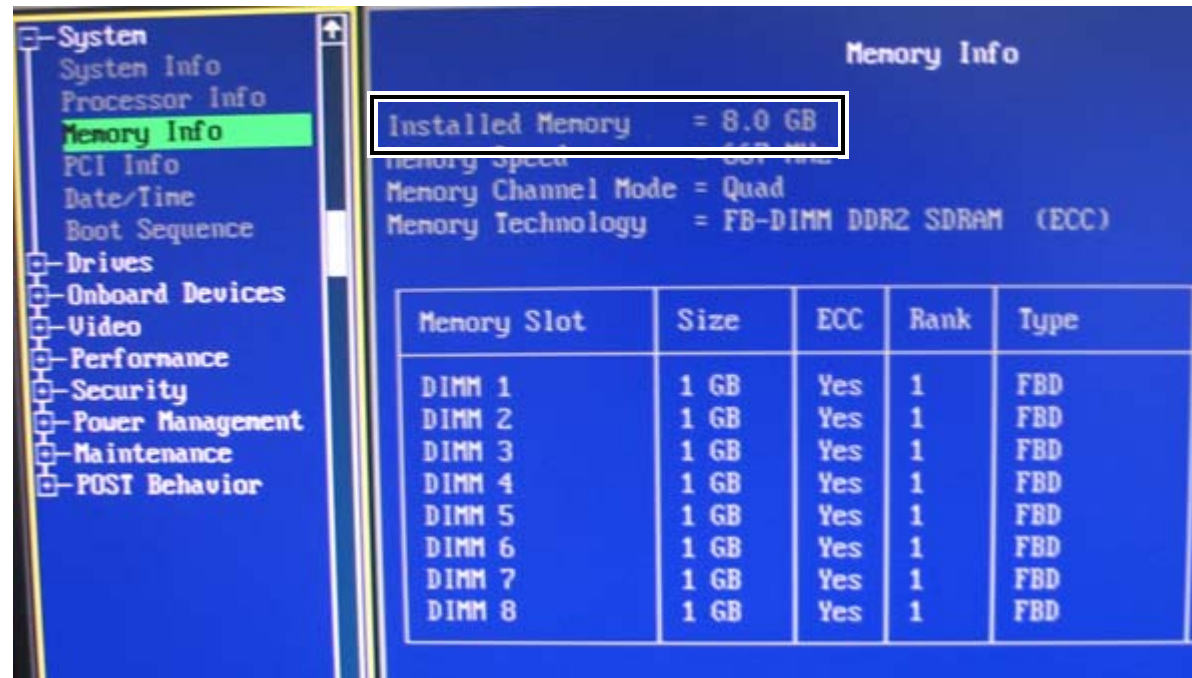

Figure 32: Memory Info
10. Press **F2** to enter System Setup and check the value of **System Memory Info** as shown in Figure 32 on page 39, The Install Memory = 8.0 GB.